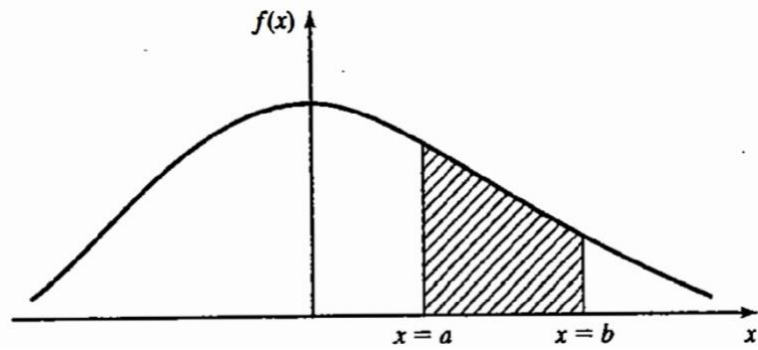

Figure 5.2 Graphical interpretation of $P(a < X < b)$.
- The graphical interpretation of Equation (5.1) is shown in Figure 5.2. The shaded area represents the probability that X lies in the interval $[a, b]$.